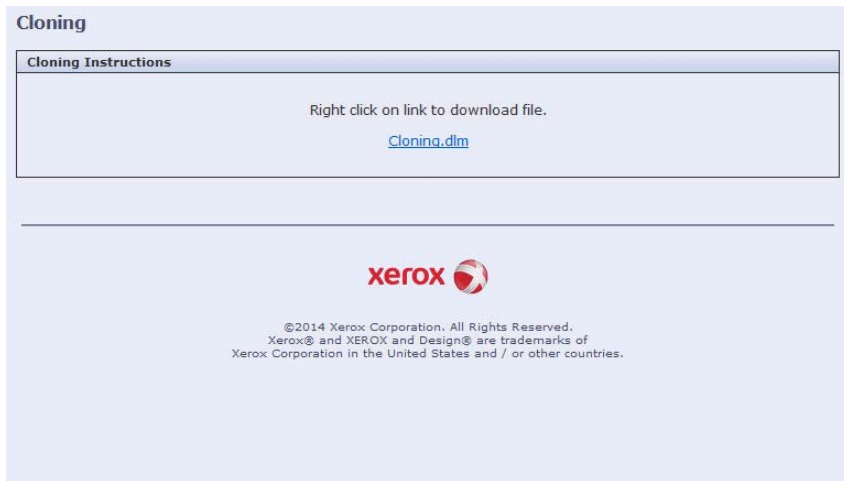

Figure 2 Save the Clone File
1. Select the **Clone** button under the **View Feature Details** link (Figure 2).
2. Right click on **Cloning.dlm** to save the clone file (Figure 2).